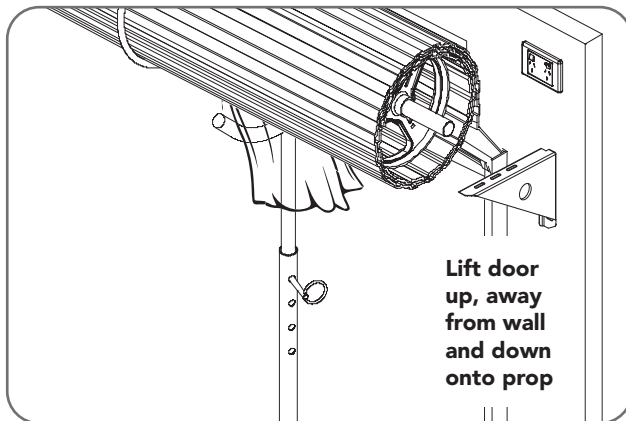

Fig. 6.5.1
- Lift the door up and away from the wall until clear of the door bracket, before lowering the door to rest on the door stand or prop. (Fig 6.5.1)